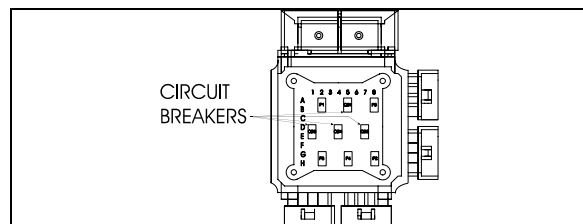
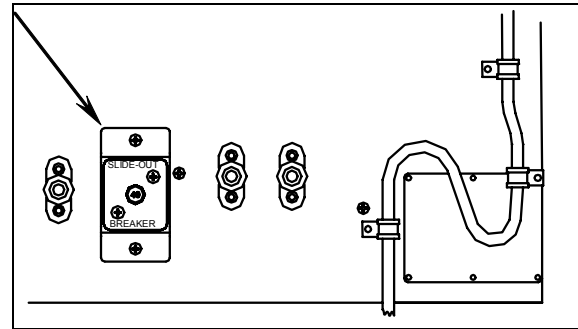

FIGURE 88: VEC CIRCUIT BREAKERS ON SLIDE-OUT CONTROL PANEL
FIGURE 89: MAIN SLIDE-OUT BREAKER IN ENGINE R.H. SIDE ACCESS COMPARTMENT
- Make sure that none of the breakers are tripped (the breakers are located inside the VEC on the slide-out control panel (FIGURE 88) and the main slide-out breaker is located in the engine R.H. side access compartment (FIGURE 89)).